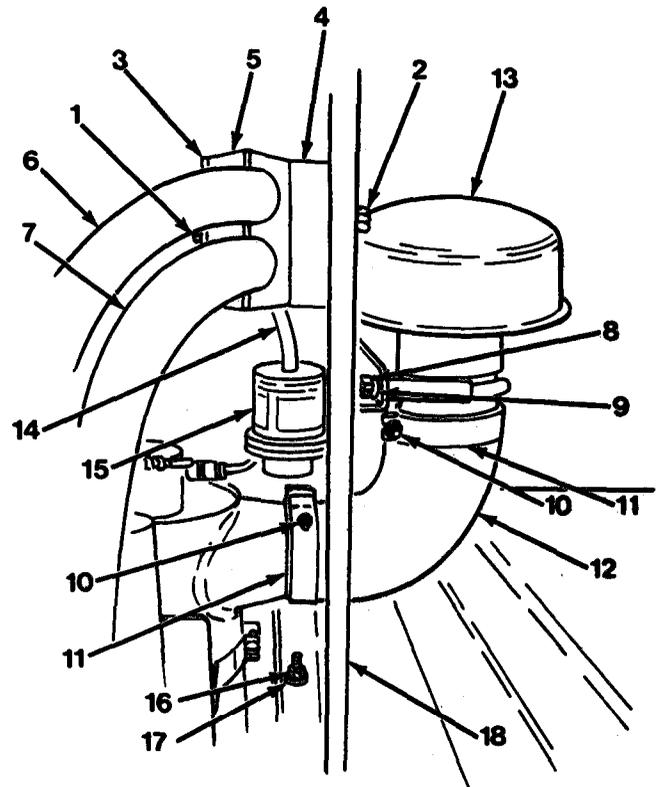

Figure 6-1
3. Remove nut (1), capscrew (2), plate (3), spacer (4) and two clamps (5) from hoses (6) and (7). Remove two nuts (8) and lockwashers (9). Loosen nuts (10) on T-clamps (11) and remove 90-degree elbow (12) and stack cap (13). Disconnect restriction indicator hose (14) from restriction indicator (15, Figure 6-1).
4. Remove six nuts (16), washers (17) and hood support (18).